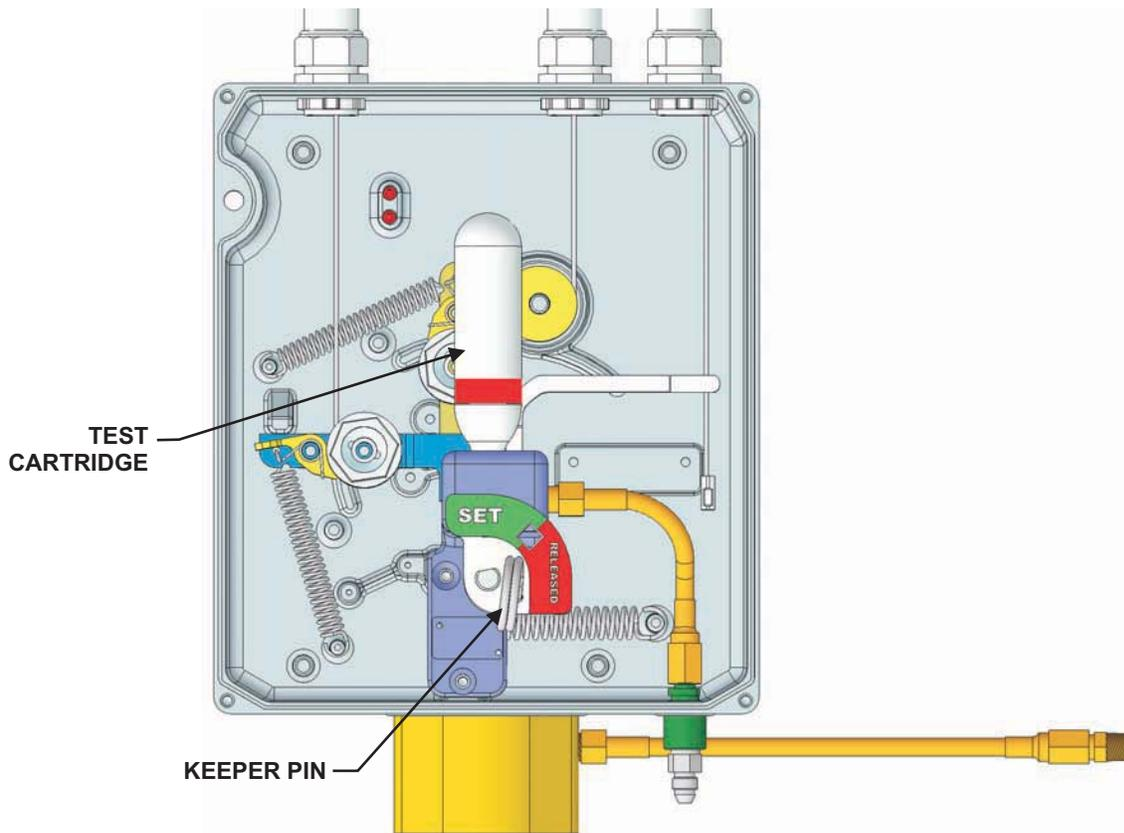

Figure 4-56. Universal Control Head, Test Cartridge Placement
1. After ensuring that the system is in the 'Set' position and the Keeper Pin is in place, locate the Test Cartridge (P/N B120044). Carefully install the cartridge into the valve assembly of the Universal Control Head. Tighten until cartridge is snug (see Figure 4-56). It is permissible to perform this test with the System Cartridge.